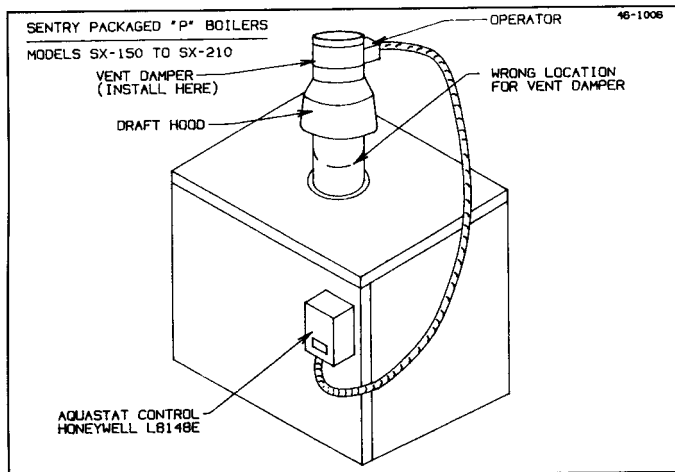

Figure 1. Vertical Installation of Vent Damper on Sentry "SX" Boilers
3. Select a proper, convenient location for vent damper. Vent damper may be installed vertical or horizontal on all models (see figures 1, 2 and 3).
- B. 1. This device must be installed after the boiler draft hood (between the draft hood outlet and the connector to the outdoor chimney or vent) as close to the draft hood as practicable, and without modification of the draft hood or the vent damper. (See figures 1, 2 and 3.)
Remove the cover from the aquastat control. Note the Molex connector (MALE PLUG) inside the control box (see figure 6). Remove knockout in the control housing marked for vent damper, pass "Receptacle B" of vent damper harness through the knockout and attach the flexible metallic connector to the control housing with the nut. Join the two halves of the Molex connector (MALE PLUG AND RECEPTACLE B). Replace the control cover. Attach the other side of vent damper harness to vent damper operator (if not attached) and connect Molex connector to operator receptacle. (See figures 1 and 2.)